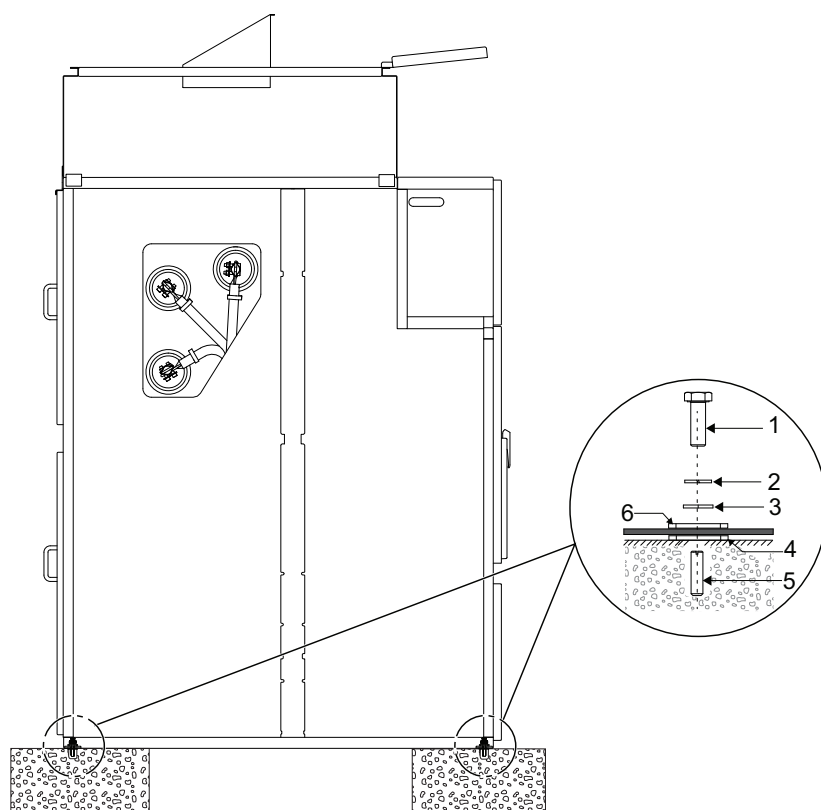

Figure 20
- If necessary, raise the cubicle and insert shims below the cubicle near the fastening points until the correct horizontal position is achieved, refer to Figure 20.